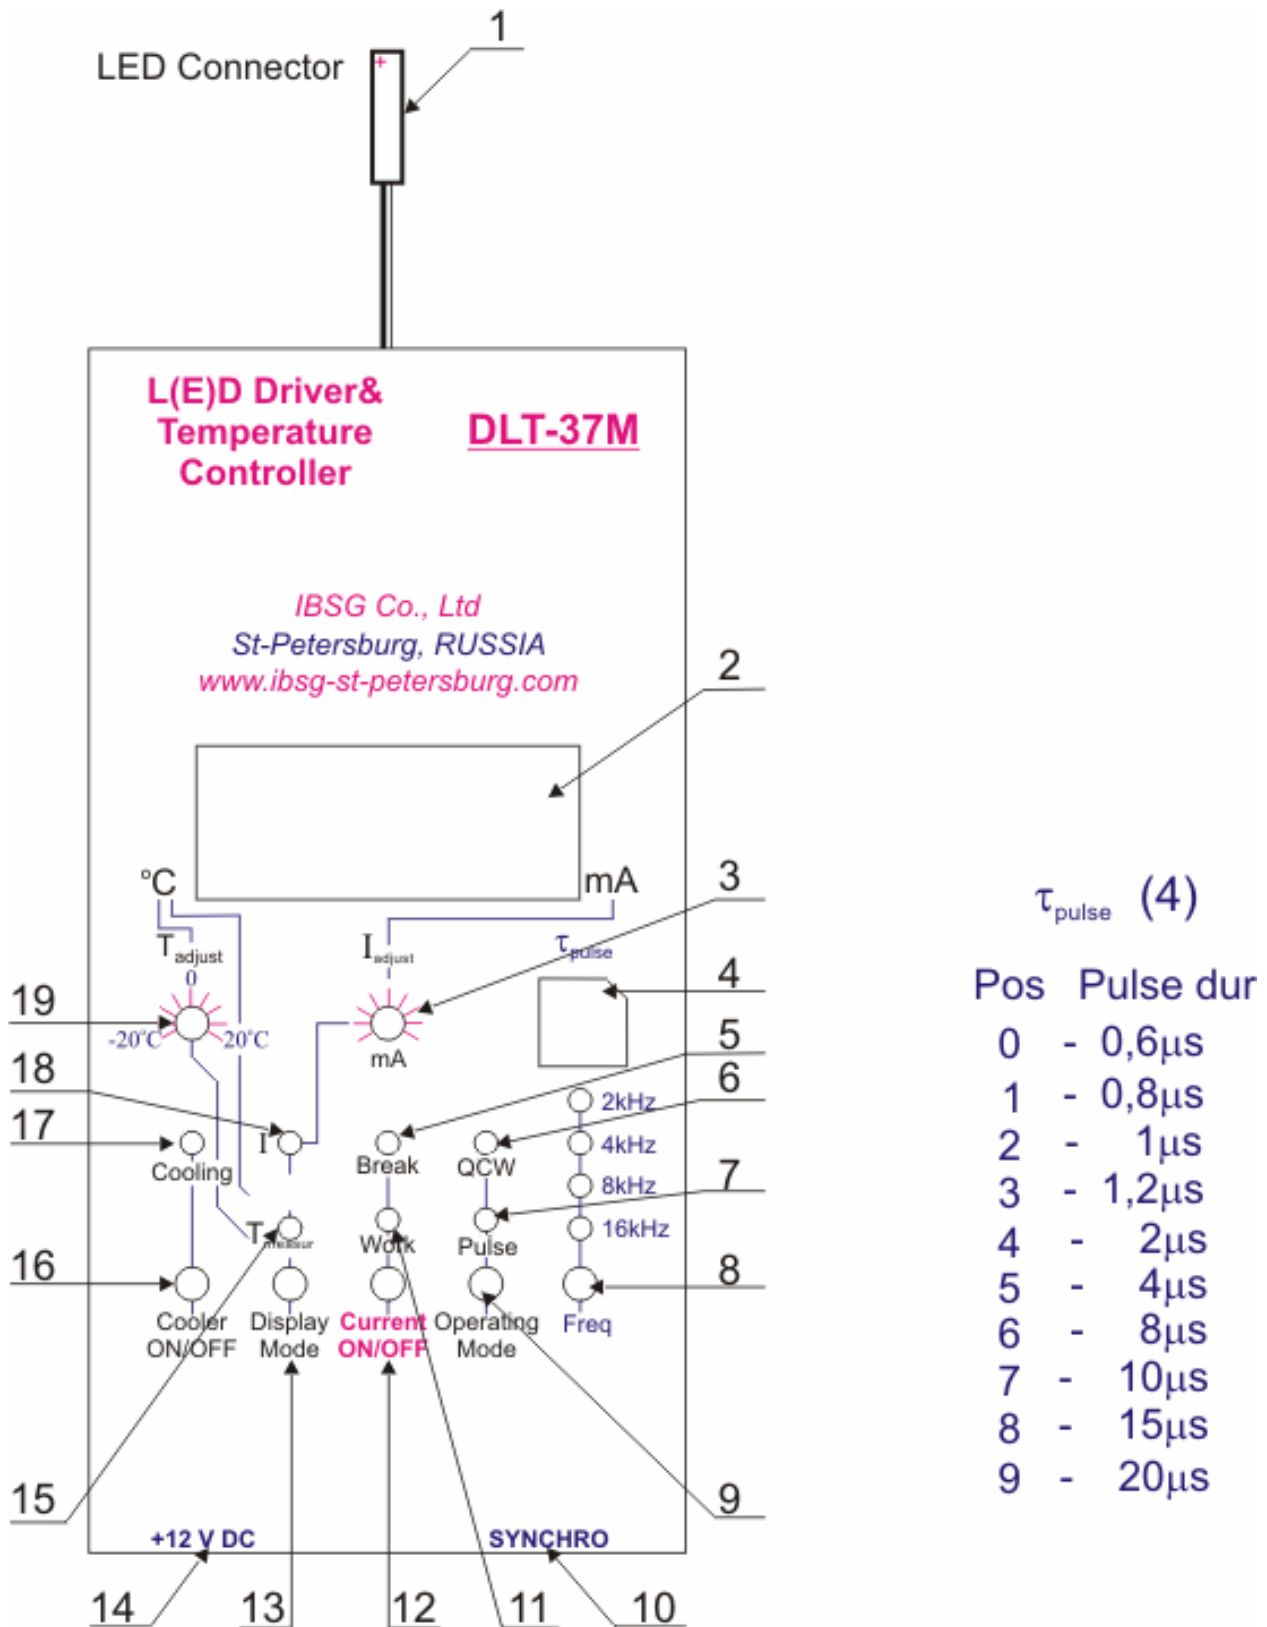

Fig.1.Appearance of the driver and its interface.
9. Using the button “Freq” (8) select one of four values of frequency. In the case of working in the pulse mode select the requisite value of pulse duration by adjusting the switch “ τ_{pulse} ” (4) and using the table in fig.1 (page 5).